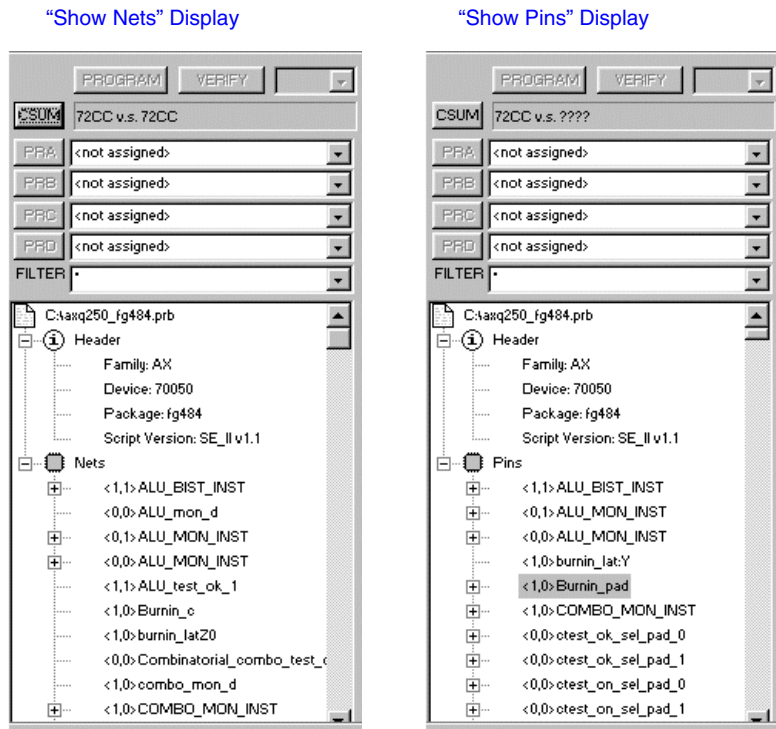

Figure 2-6. Command Module Display Styles
You can modify the tree information to reflect the design's internal net names or pin names by right-clicking the Nets icon and selecting either “Show Nets” or “Show Pins”. See Figure 2-6 for examples of the two types of displays.
1. Open Silicon Explorer II and check the status in the lower right corner of the display. If you have properly selected the COM port and powered up Silicon Explorer II, then the status is IDLE. The Analyze module captures 64K samples of each channel and uploads them to the host over the serial port. (Figure 2-6).